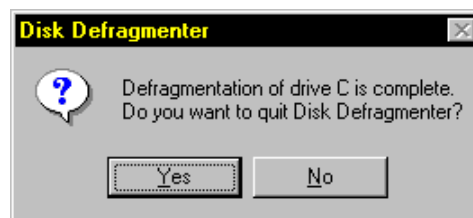

Figure A.31 Quit Disk Defragmenter Dialogue Box
6. When the application finishes, the quit **Disk Defragmenter** dialogue box is brought up. Click **Yes** to exit the application. Refer to Figure A.31.